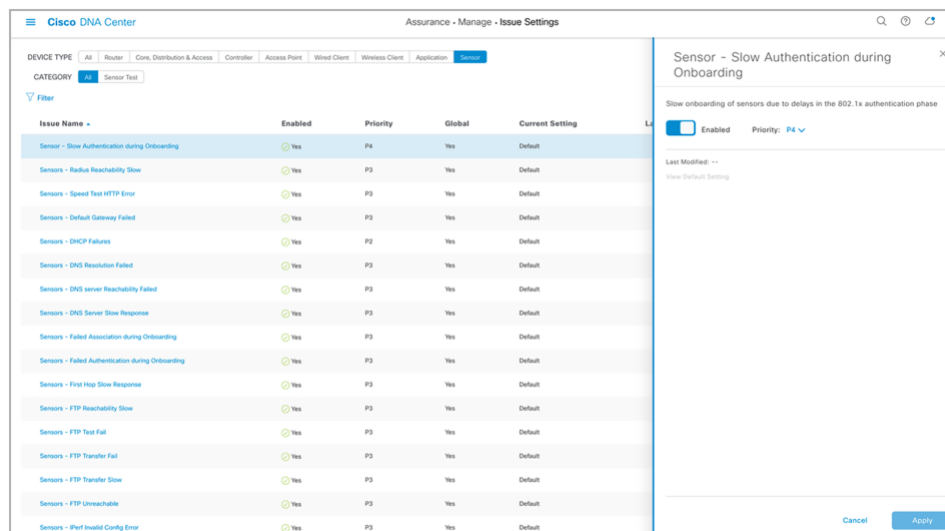

Figure 96.
1. To view the sensor-specific issue settings, open the hamburger menu and click Assurance > Issue Settings, then click Sensor for the Device Type to filter the page by sensor issues (**Figure 96.**).
- a. Click a sensor Issue Name to toggle its enablement and/or change the priority (**Figure 96.**).